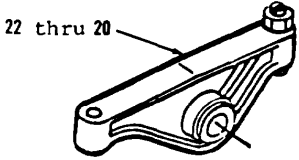
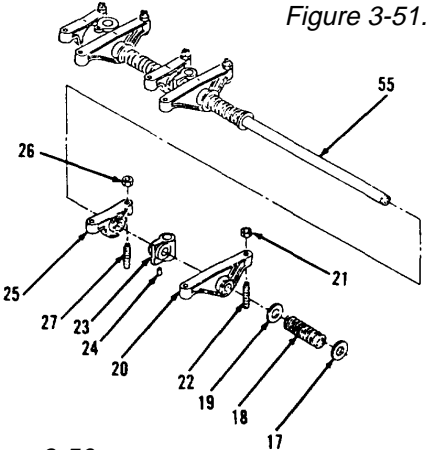

Figure 3-51.
Figure 3-50.
- 19. Install screw (27) and lock nut (26) in arm (25, Figure 3-50). Loosely tighten lock nut (26).
- 21. Install dowel (24) in bracket (23, Figure 3-50). Dowel (24) must extend 0.23 inch out of bracket (23).
- 22. Install bracket (23) on shaft (55).
- 23. Install screw (22) and lock nut (21) in arm (20). Loosely tighten lock nut (21).
- 24. Install items 22 thru 20 as an assembly (Figure 3-51).
- 25. Install washer (19), spring (18) and washer (17) on shaft (55, Figure 3-50).